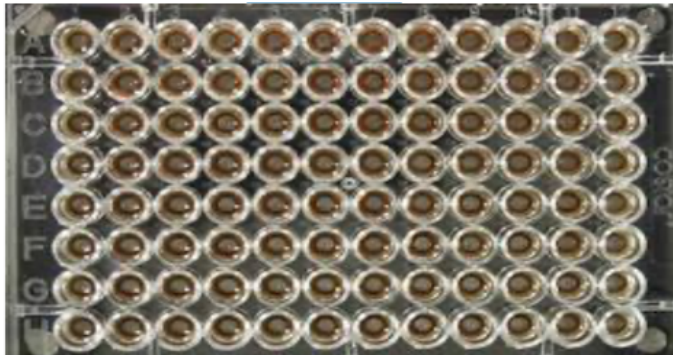

Figure 5: Extraction plate during wash step on magnetic plate.
- After the 5 min incubation, remove as much of the 400 μ L of the supernatant as possible. Be careful not to disturb or aspirate the beads. See Figure 5.